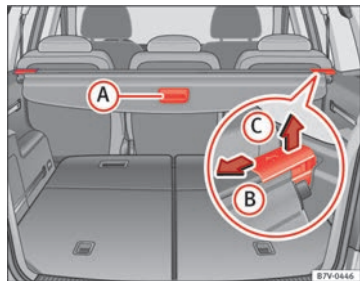

Fig. 92 In the luggage compartment: rear shelf
- Pull the shelf handle ⇒ Fig. 92 A backwards.
- Release the shelf in the direction of the arrow ⇒ Fig. 92 **B**.
- Lift the shelf off in direction of the arrow ⇒ Fig. 92 **B**.
- Release the shelf in the direction of the arrow ⇒ Fig. 92 **B** and lift it in the direction of the arrow **C**.